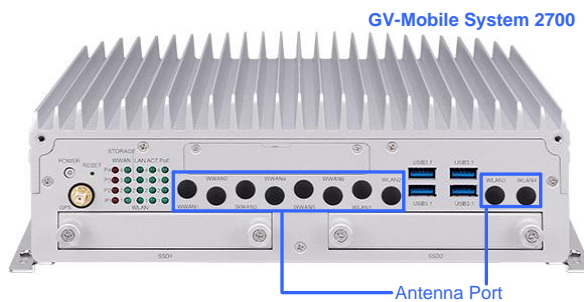

Figure 4-1
3. Install an antenna to the Antenna Port 2 (ANT2) on **GV-MNVR1000** or Antenna Port 1 (ANT1) on **GV-MNVR2110**; see *Figure 4-1*. For **GV-Mobile System 2700**, install an antenna to any of the 10 ports; see *Figure 4-1*.